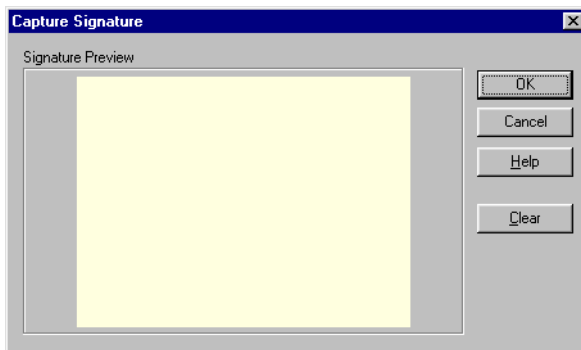

Figure 30: Capture Signature
7. Click the button and the Capture Signature window appears (see Figure 30).